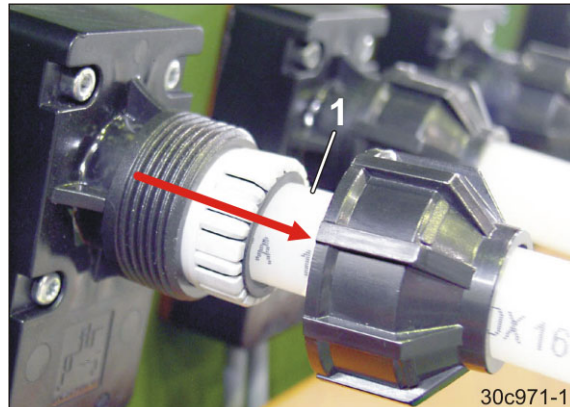

Fig. 9
1. Label and remove the seed tubes (Fig. 9/1).